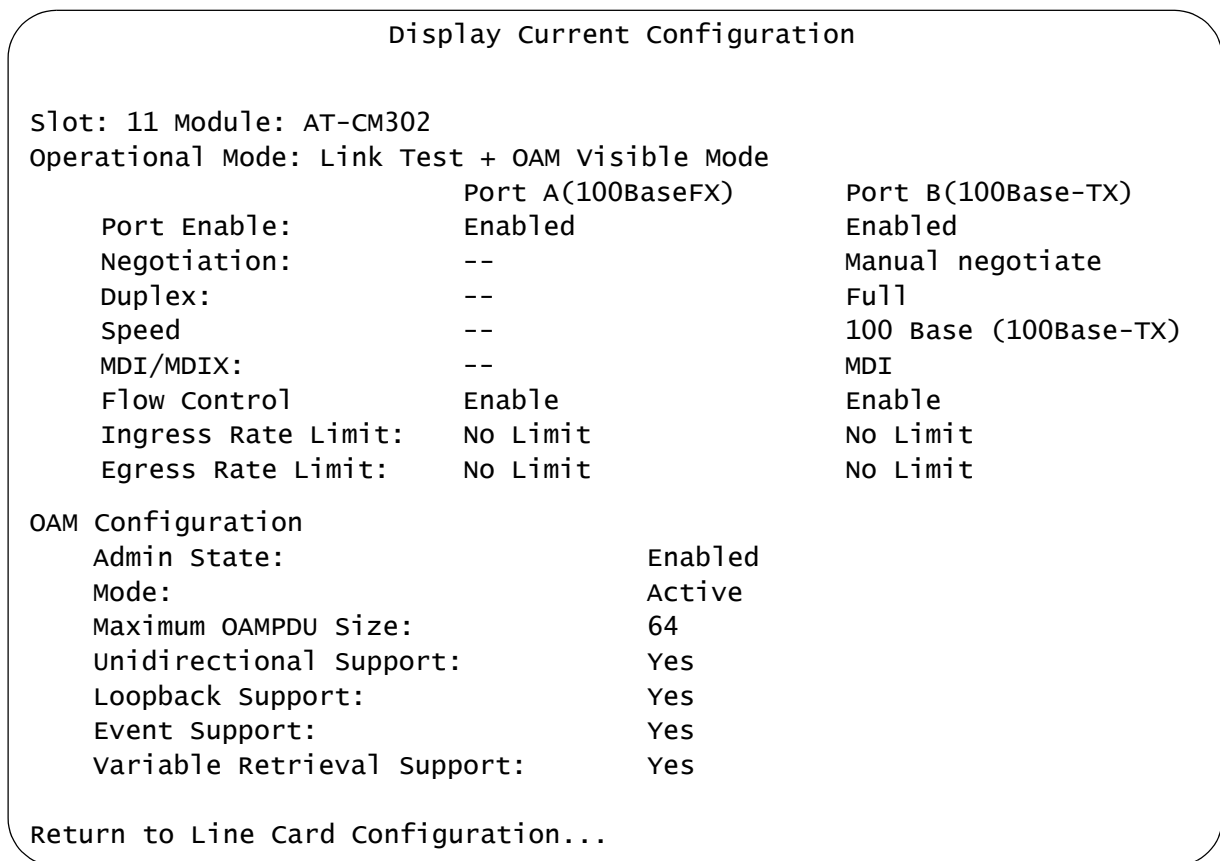

Figure 61. Display Current Configuration Window
4. Select **Display Current Configuration**. An example of the window is shown in Figure 61.